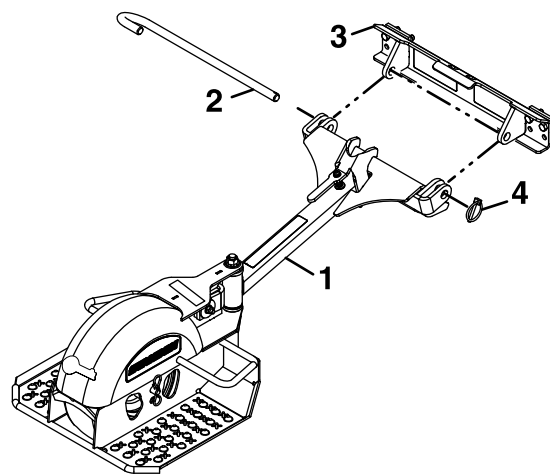

Figure 5
3. Remove the lynch pin and pivot pin from the mount plate. Align the drawbar assembly with the mount plate as shown in Figure 5.